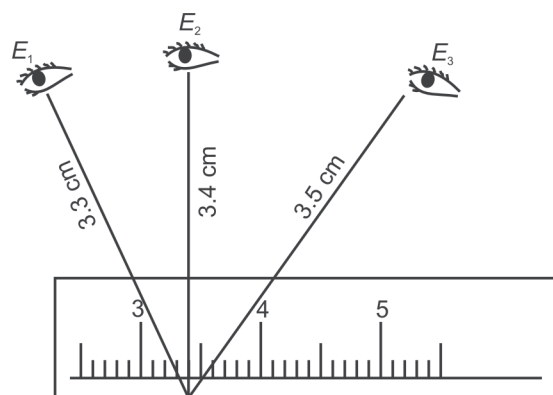

Fig. 1. Readings E_1 and E_3 are incorrect but E_2 is correct
4. The observation should be taken keeping one eye closed and the other eye directly over the mark. Observation with an inclined eye will be wrong due to the error of parallax. (See Fig. 1)